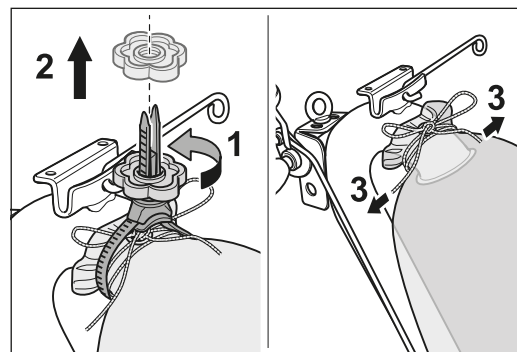

Fig. 45 Remove the MultiClip (1 and 2) and open the cord at the dust bag (3).
- 4 Remove the MultiClip (fig. 45, 1 and 2) and open the cord at the dust bag (fig. 45, 3).